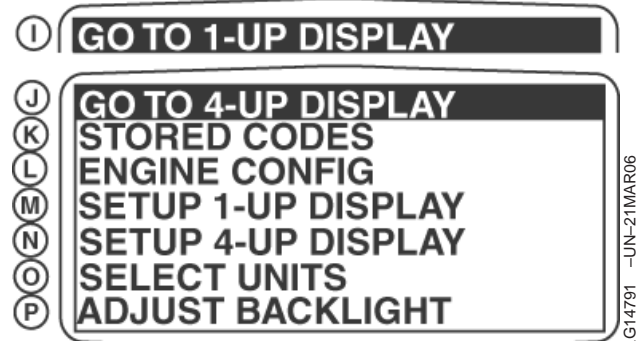

Figure 3. Main Menu, Select Go To 1 or 4-Up Display
- a. Press the menu key (E). Main Menu (fig. 3) is displayed.
- b. If "GO TO 4-UP DISPLAY" item is not highlighted, press scroll-up arrow key (F), until it is highlighted (J), as shown in figure 3.
- b. b. If there are stored fault codes, fault code screen is displayed. For an example, refer to figure 3.
5. When the word "NEXT" (E) appears above the arrow keys (H) and (I), there are more, stored trouble codes that can be viewed by using the arrow keys. To view the next trouble code, press the right arrow key (I). To view the previous trouble code, press the left arrow key (H). As the trouble code being viewed is changed, the "1 of x" (B) shows the number of the trouble code being displayed, out of a total number of active trouble codes. (For example, "3 of 5" means viewing the third trouble code of a total number of five, active trouble codes.) As the arrow keys are used to display next, or previous, trouble codes, the left-hand number changes to the number of the trouble code to which the scroll was advanced or returned.
6. Press the menu key (G) to return to the main menu.